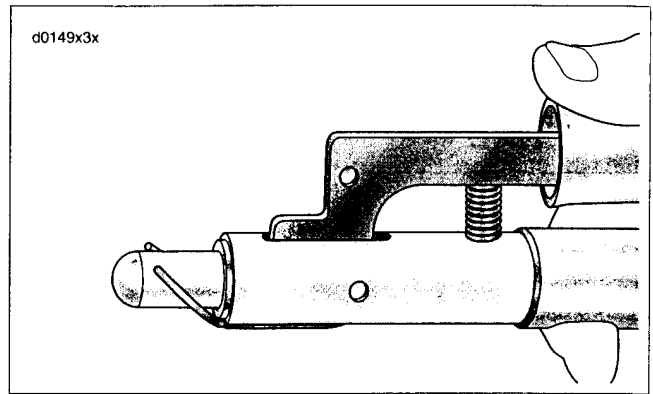

Figure 3-31. Aligning Circlip
- a. See Figure 3-31. Slide circlip down nose of tool until it contacts claw. Lightly squeeze handles of tool to capture circlip in claw.